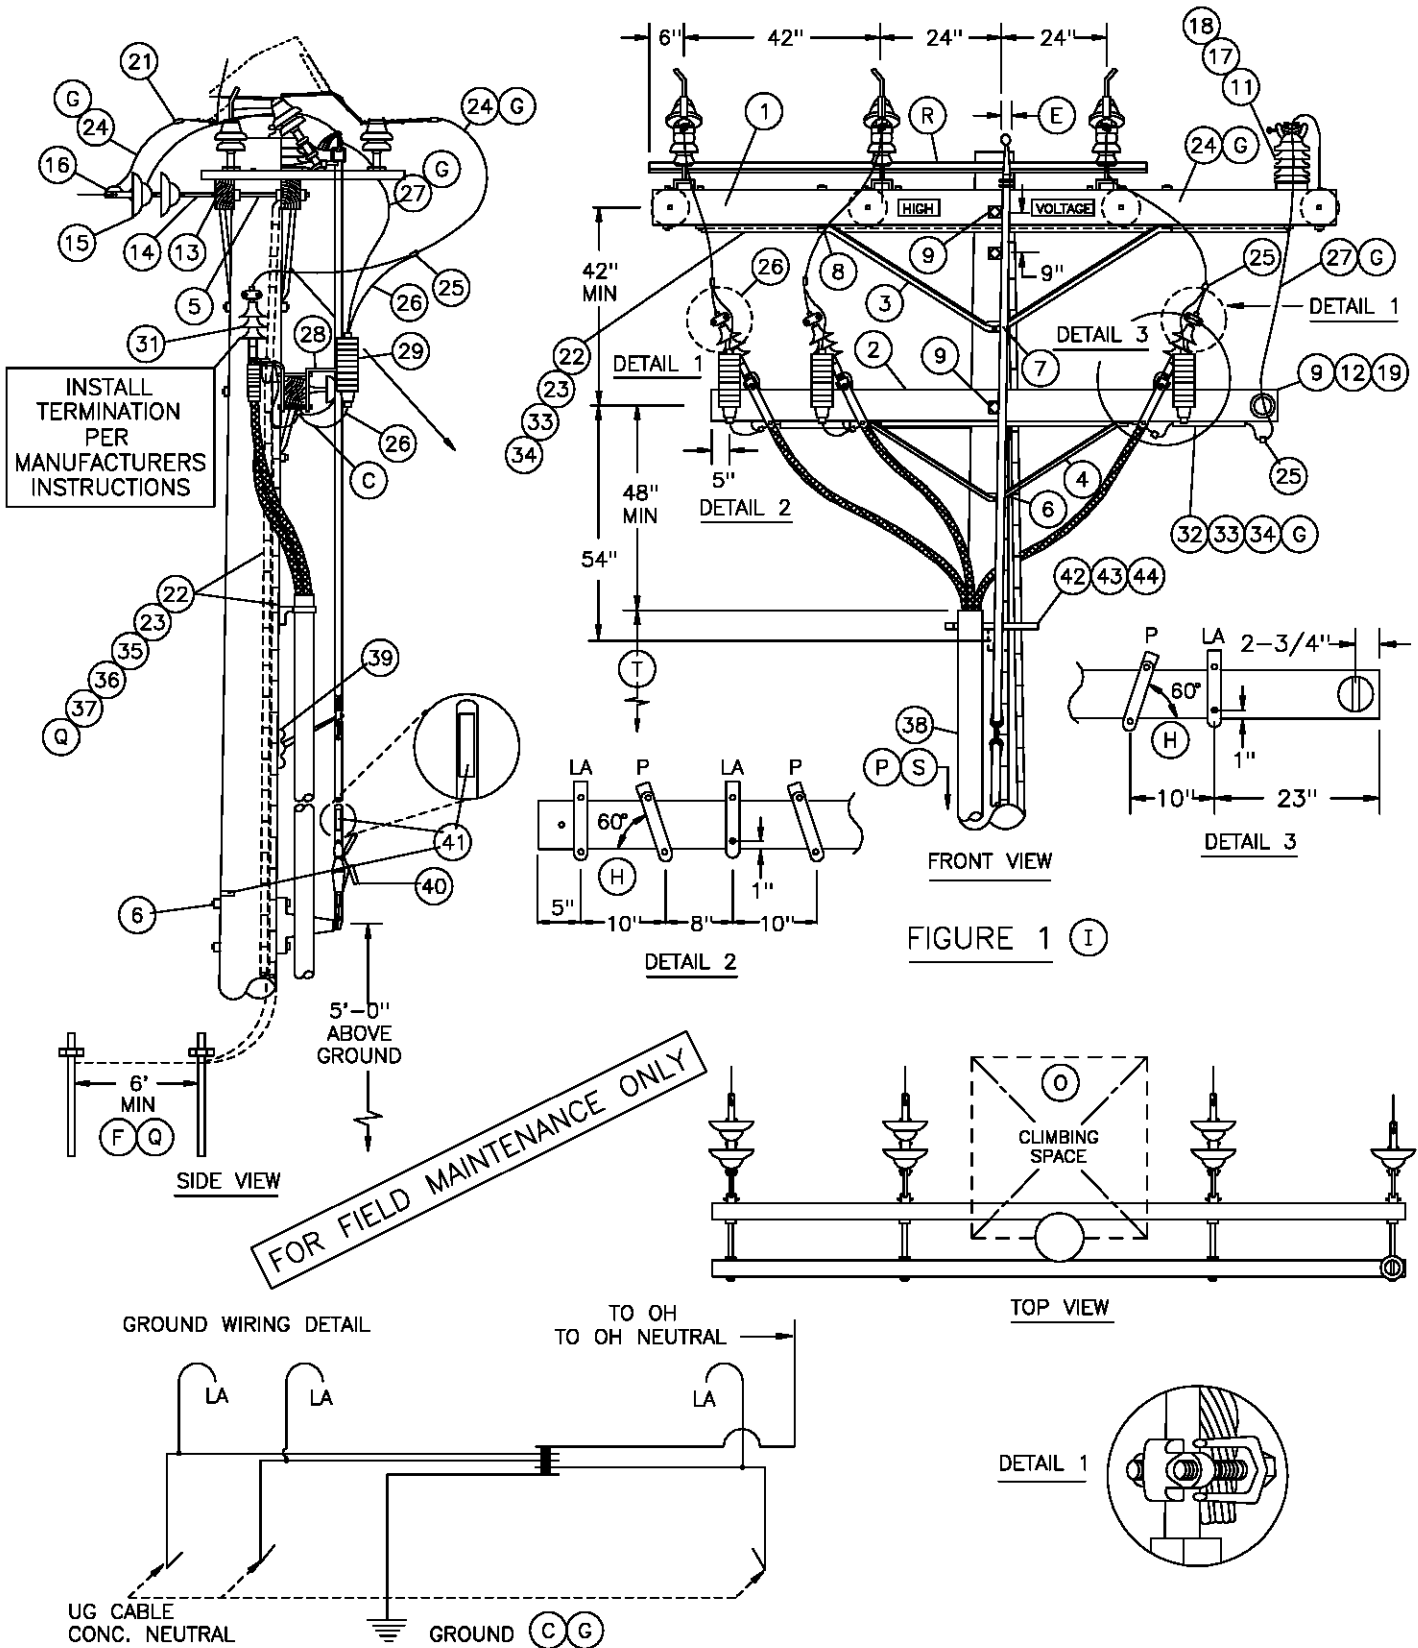

FIGURE 1 I
- G. WHEN ADDING THIS CONSTRUCTION TO AN EXISTING POLE WITH A 10' LINE ARM, AND SUFFICIENT POLE HEIGHT EXISTS, INSTALL 10' SWITCH ARMS AND ASSOCIATED HARDWARE BELOW THE LINE ARM TO AVOID CHANGING LINE ARM FROM 10' TO 12' (SEE O.H. STANDARD 1222, FIG. 1-B).